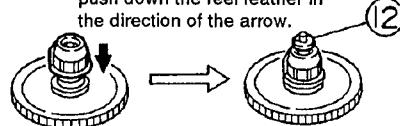

Fig. 4-12
■ Reel disk ass'y (See Fig. 4-12)